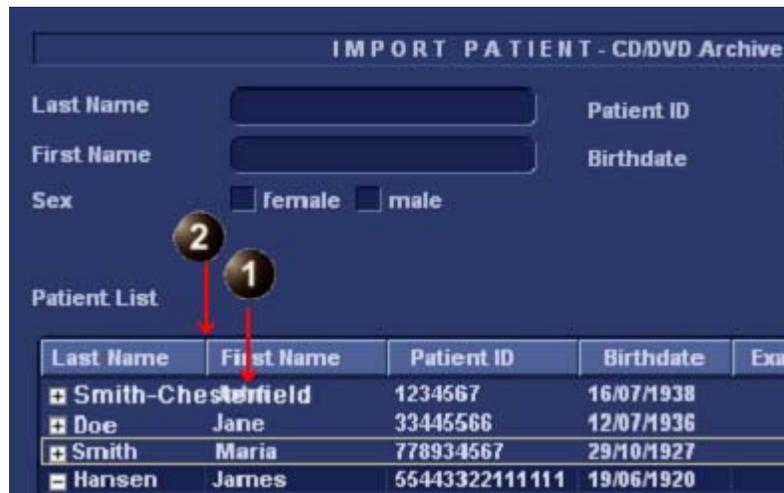

Fig. 3-5
On the Patient-List screen, if the Last Name column is too narrow or the last name is too long, the text may over-write and “mix” with the text of the first name to become unreadable. See item 1 in Fig. 3-5.
1. Place trackball pointer over border (item 2 Fig. 3-5) and widen the column.